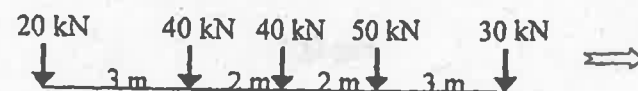

Fig. Q.12 (a)
12. (a) A train of loads as shown in Fig. Q.12 (a) crosses a simply Supported beam of 24 m span from left to right. Using influence line determine the maximum bending moment at left one - third span point and also the absolute maximum bending moment in the beam.